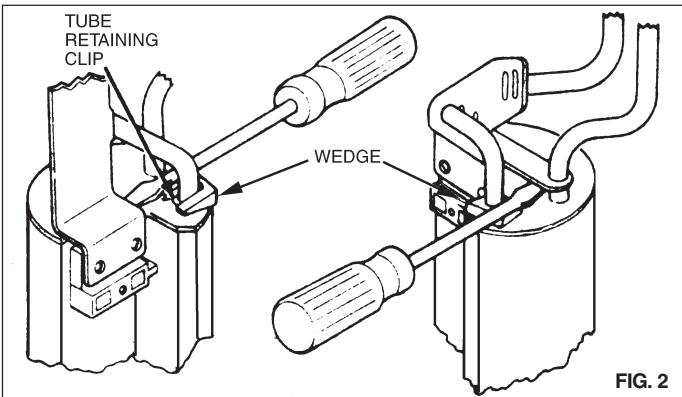

FIG. 2
D) Using a screwdriver or similar prying device with the wedge provided, and referring to the diagrams for various tank units (fig. 2), pry the tubing/flange assembly and the plastic tank unit apart. The tubes should not have any of the retaining clips from the tank unit on them. Discard the old tank unit with filter attached.